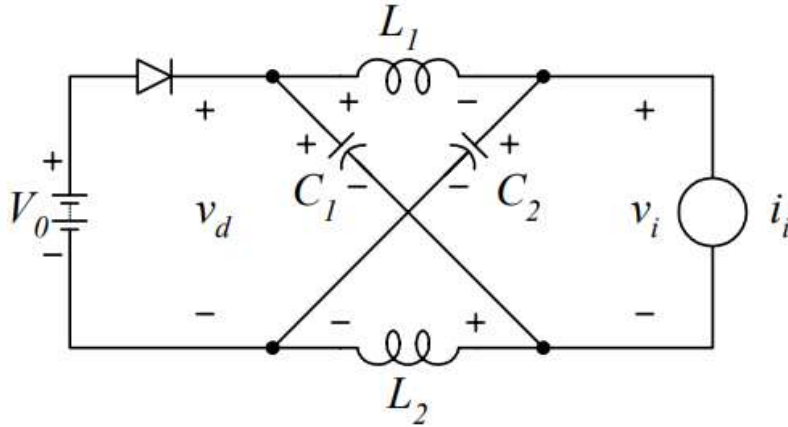
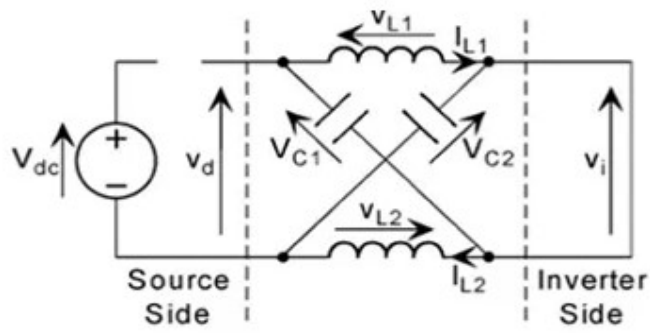

Fig 2: Equivalent circuit of ZSI
Fig 3: Equivalent circuit when ZSI in shoot through state
The three phase impedance source inverter bridge has nine switching states unlike the traditional VSI that has eight switching states. Because of this special structure, the ZSI has an additional switching state, when the load terminals are shorted through both the upper and lower switching devices of any phase leg, which called the Shoot-Through (ST) state besides the eight traditional Non-Shoots Through (NST) states. The ZSI has two operating modes: non-shoot-through mode and shoot-through mode, as shown in Fig. 3 and 4 respectively. During the ST switching state, the input diode is reverse biased; the input DC source is isolated from the load, and the two capacitors discharge energy to the inductors and to the load. During the NST switching states, the input diode turns ON, and the DC input voltage source as well as the inductors transfer energy to the load and charge the capacitors, as a result the DC-link voltage of bridge is boosted. The impedance source inverter bridge has one extra zero state, when the load terminals are shorted through both upper and lower devices of any one phase leg or all three phase legs. This shoot through zero state is forbidden in the VSI, because it would cause a shoot-through. This network makes the shoot through zero state possible. This state provides the unique buck-boost feature to the inverter. The equivalent switching frequency from the impedance source network is six times the switching frequency of the main inverter, which greatly reduces the required inductance of the impedance source network. The equivalent circuit of the ZSI is shown in Fig. 2.